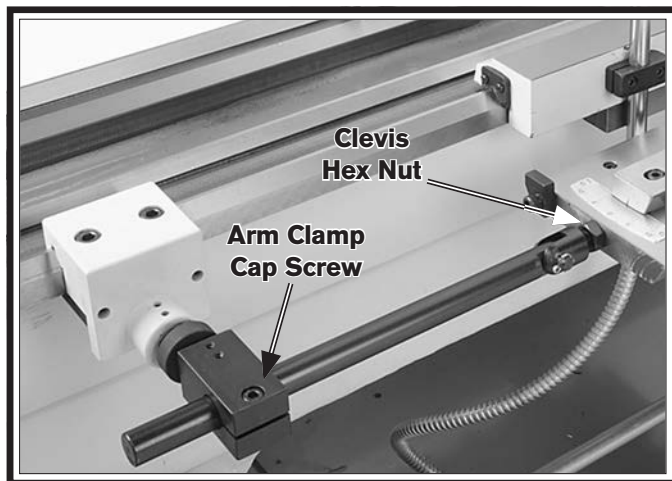

Figure 20. Arm clamp cap screw and clevis hex nut.
- 28.** Tighten the arm clamp cap screw (see **Figure 20**) to secure the deadman clamp assembly to the arm.